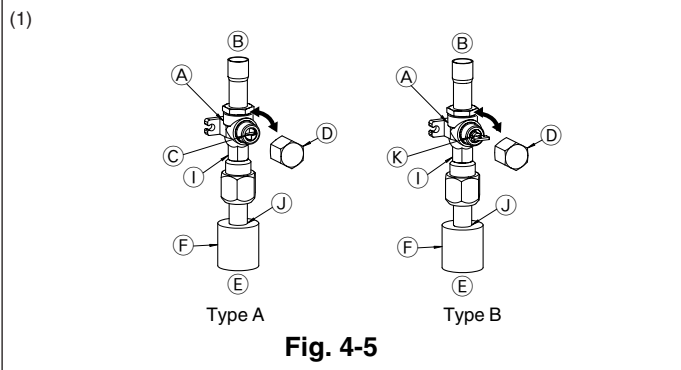

Fig. 4-5
- (1) Gas side of A24-A42 (Fig. 4-5)